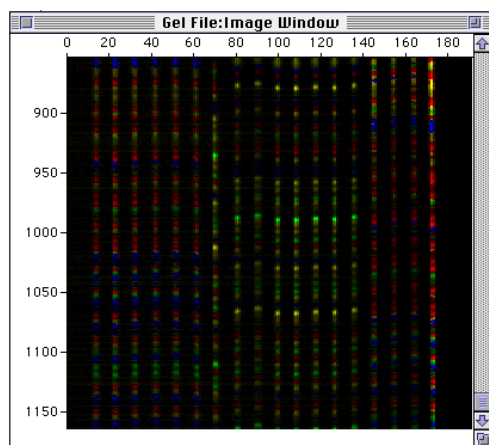

Figure 1-1 Gel file
- ◆ Collects raw data from the instrument and stores it in a gel file (Figure 1-1 on page 1-17; described on page 1-13)